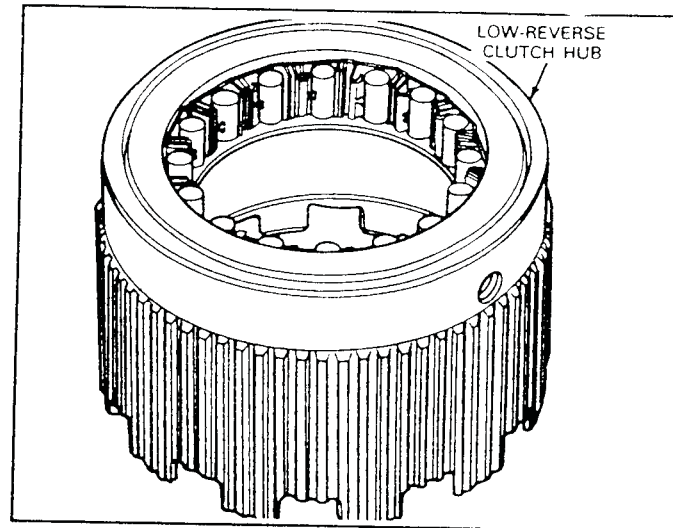

FIG. 57 One-Way Clutch Installed
2. Place the low-reverse clutch hub on the bench with the forward end down (Fig. 57).